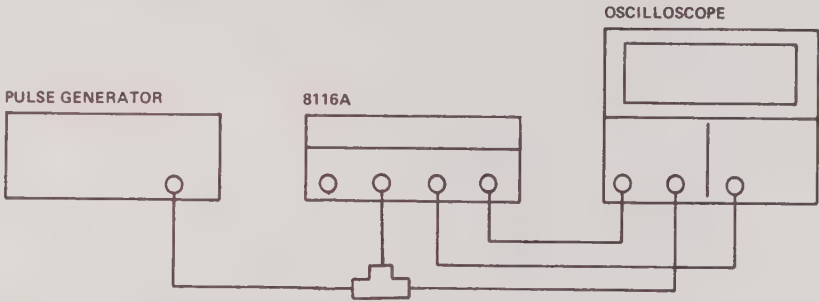

Figure 4-13. Test setup for PWM
- Connect equipment as shown in Figure 4-13.